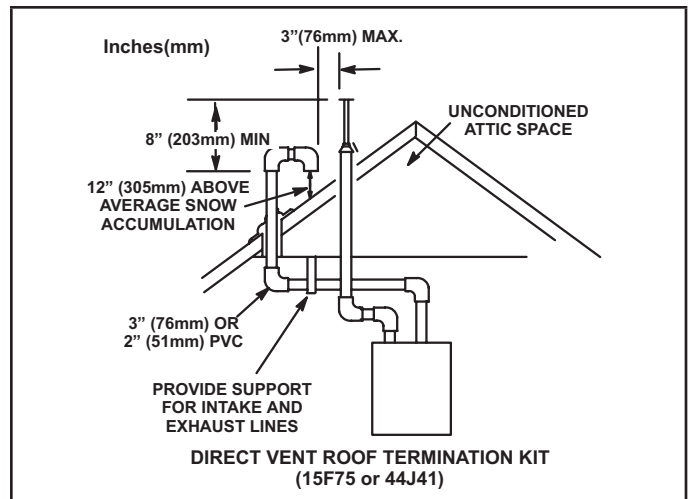
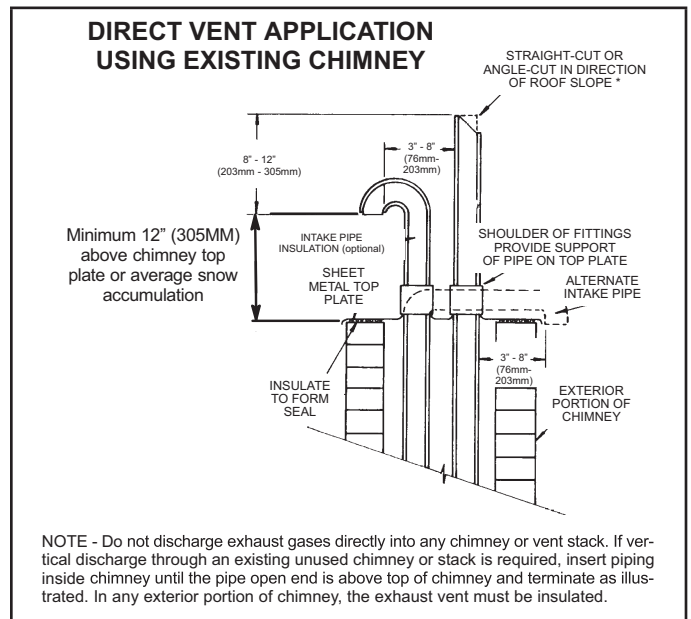

FIGURE 36
FIGURE 43
Intake and exhaust pipes may be routed either horizontally through an outside wall or vertically through the roof. In attic or closet installations, vertical termination through the roof is preferred. FIGURE 36 through FIGURE 43 show typical terminations.
- 3 - On roof terminations, the intake piping should terminate straight down using two 90° elbows (See FIGURE 36).